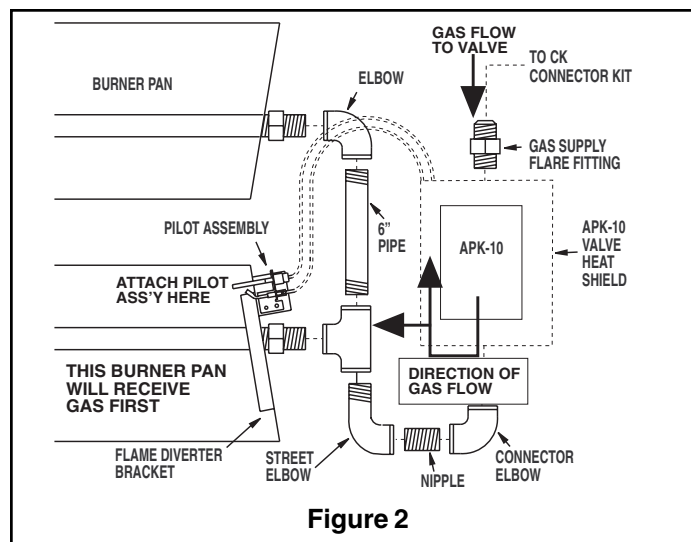

Figure 2
- Attach the street elbow and 3/8" nipple to the burners manifold (see Figure 2).
- When the valve is connected, for correct and safe lighting, attach the pilot assembly to the **first pan that will receive gas** during operation (see Figure 2)